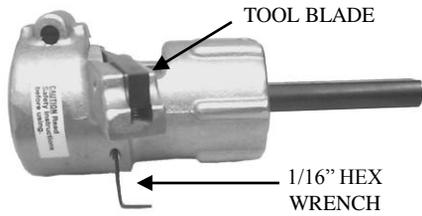

Fig. 5
**Step 5.** (Fig. 5) Before stripping the insulation, adjust the blade edge to 0.39mm (1/64”) – 0.79mm (1/32”) above the conductor surface by inserting the provided hex wrench through the hole located beneath the tool blade.